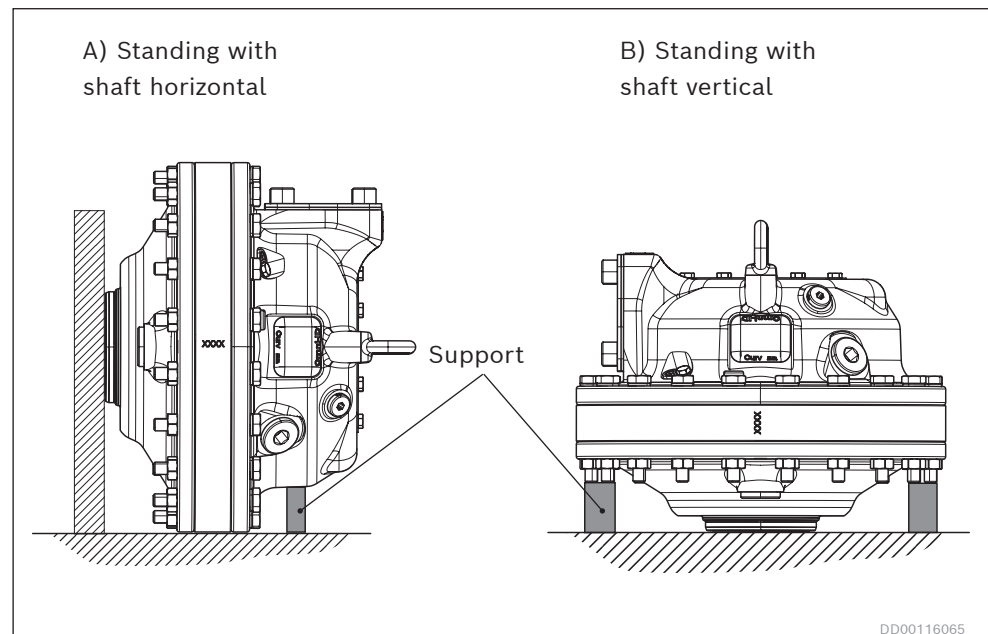

Fig. 8: Example, Hägglungs Atom 10 standing on a flat surface
- ▶ It is also advisable to provide supports at the mounting surface of the motor, see Fig. 8.
When the motor is placed on a flat surface such as a floor, it must stand either on its outer diameter or on the suitably protected end face of the hollow shaft. It is also advisable to provide supports shown in Fig. 8.
- 1 Place the motor as shown in Fig. 8, alt. A) Standing with shaft horizontal.
- 5 Position the motor as shown in Fig. 8, alt. A) Standing with shaft horizontal. or B) Standing with shaft vertical.